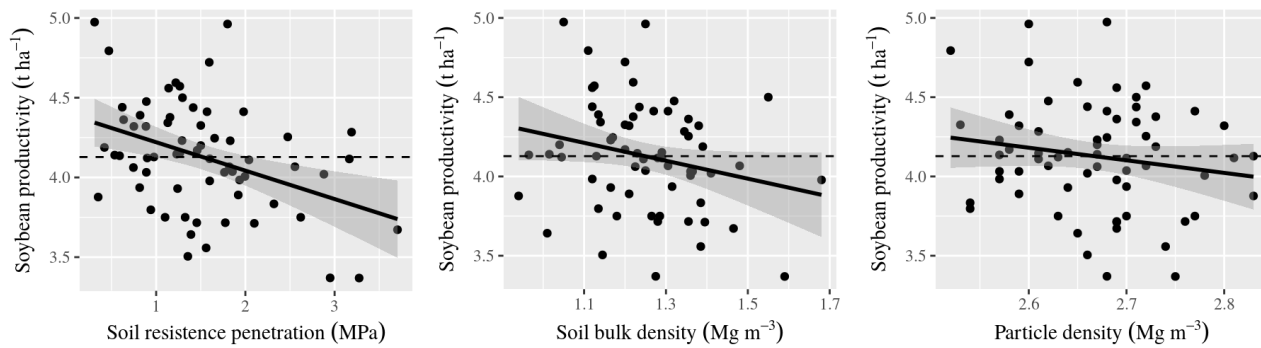

Fig. 2
7 **Fig. 2** (a, b, c) Relationship of the soybean yield with penetration resistance (PR), bulk density (BD) and particle